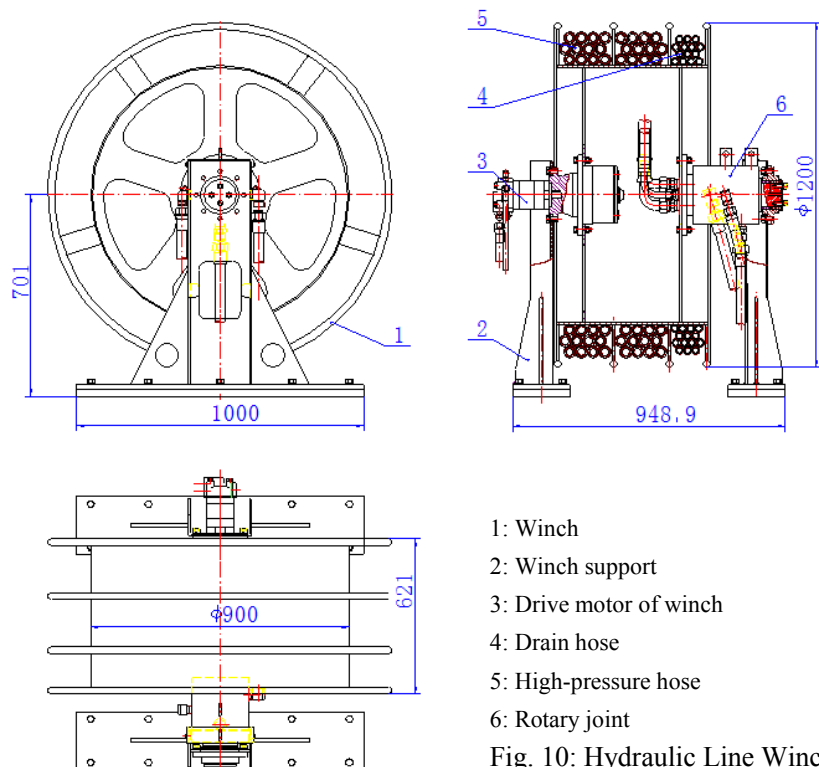

Fig. 10: Hydraulic Line Winch
3.6.3 Hydraulic winch: it is an auxiliary equipment to power swivel used to wind and store the hydraulic hoses connected to swivel, as shown in Fig. 10. Hydraulic winch consists of winch bracket (2), winch driving motor (3), pipe winch (1) and rotary joint (6).
- 5) According to Fig. 10 and Table 2 and install the 2 reactive torque steel wire ropes randomly provided on the service rig, tighten them and make them pass through the reactive torque arms at both sides of swivel. The installment center distance of steel wire rope shall be between 2,222 mm-2,322 mm.
- 2) Setting-up of system pressure: system pressure can be adjusted by adjusting the A and B ports and overflow valve; in general, the oilway of high-pressure ball valve is the CW (drilling) direction of swivel; the high-pressure ball valve can be closed during adjustment and be opened after setting-up. System pressure can be displayed on the system pressure gauge (Fig. 10, Part 8) of local operating console; system pressure shall not be larger than 31.5 MPa and is adjusted to 25~27 MPa in most cases.